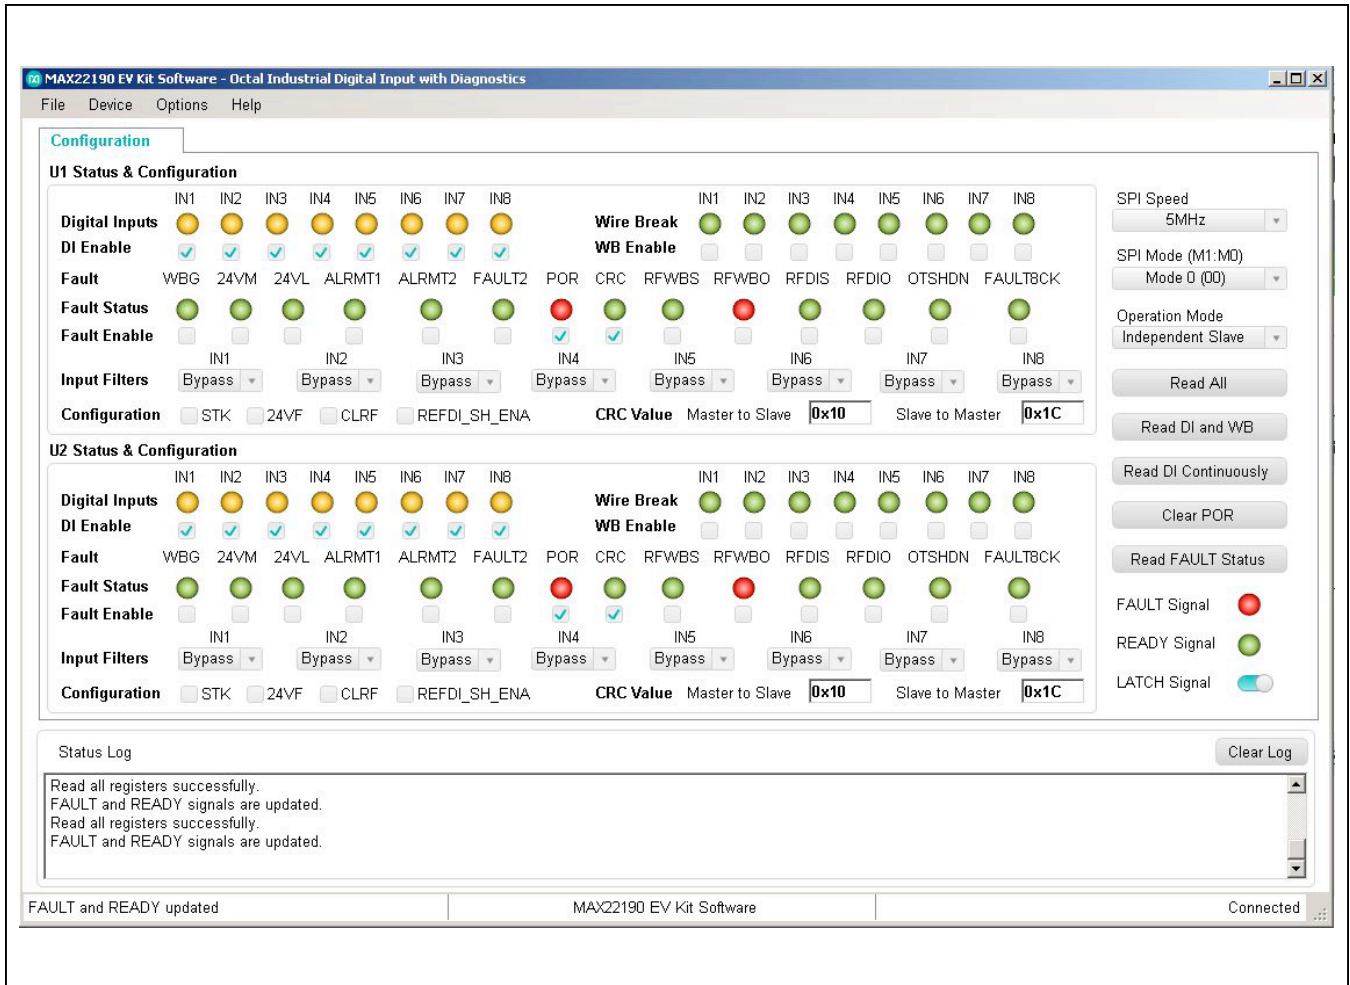
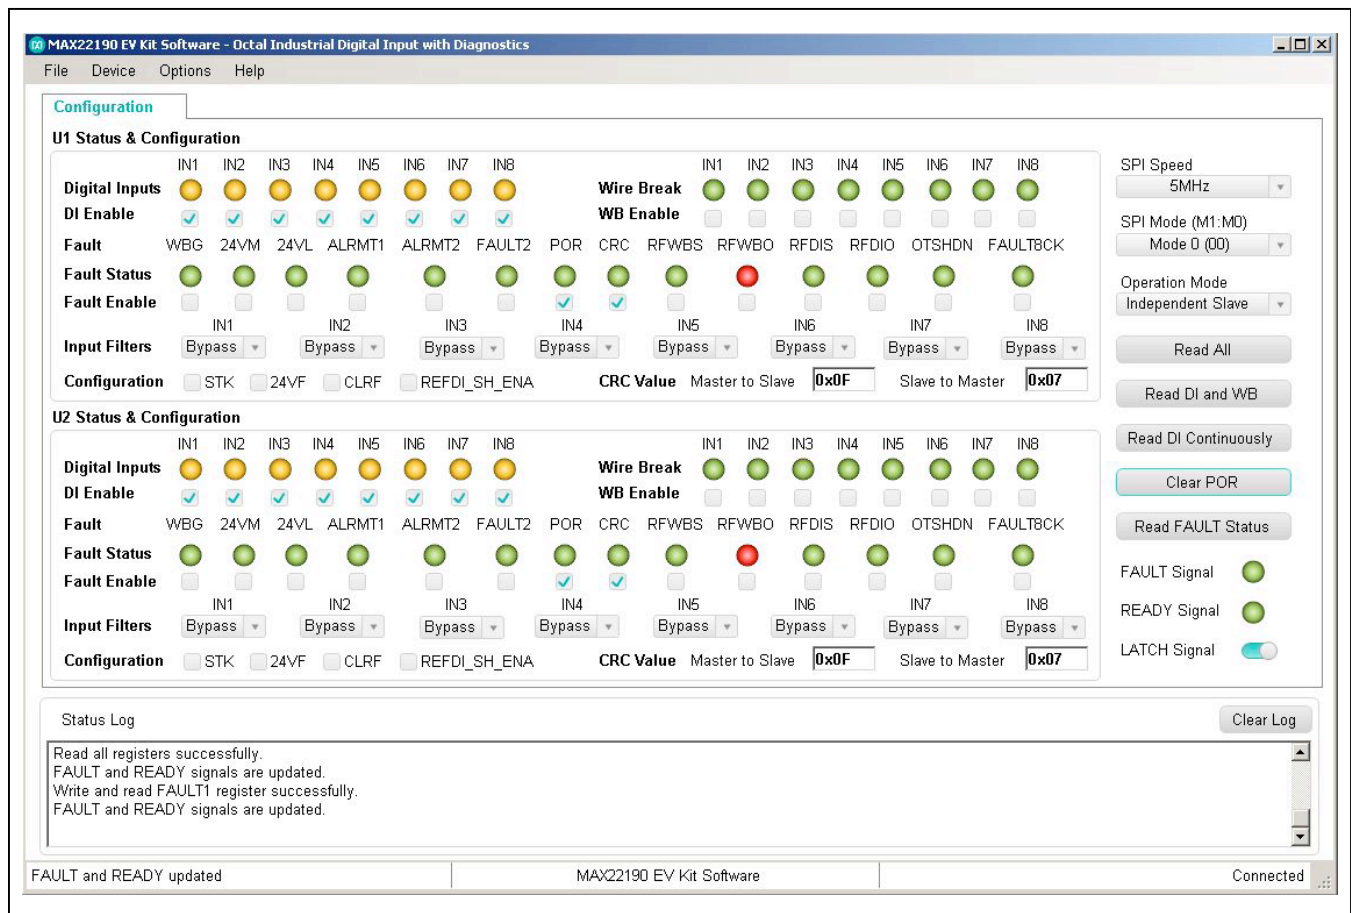

Figure 2. MAX22190 EV Kit Software Startup Window
Figure 3. MAX22190 EV Kit Software—Clear POR
- 11) Once the hardware is ready to use, launch the EV kit software by opening its icon in the **Start | Programs** menu. During the EV kit software launch, two message boxes are shown to indicate the default operation mode (Independent Slave mode), and U1 and U2 SPI mode (Mode 0). Click **OK** to close the message boxes. The EV kit software appears as shown in Figure 2.
- 13) Click **Clear POR** button. Observe that **POR** status lights for U1 and U2 are changed to green, and **FAULT Signal** status light is also changed to green in the **Configuration** tab as shown in Figure 3.
When the MAX22190 EV kit software starts, it automatically detects if the EV kit is connected to a PC and indicates it in the status bar at the bottom edge of the GUI. If the software does not recognize the USB2PMB2# adapter board, make sure that the software and all drivers are properly installed, check the USB connection, and go to the **Device** menu and select **Search for Hardware** option. When the EV kit is properly connected, the MAX22190 devices (U1 and U2) are read and all controls are updated (see Figure 2).
After power up, the MAX22190 $\overline{\text{FAULT}}$ pin is low and the POR bit in the FAULT1 register is set, indicating that a power-on-reset has happened and all registers are set to default (Figure 2). After clicking the **Clear POR** button, the GUI clears the POR bit in the FAULT1 register. The FAULT pin is pulled high and FAULTB1 or FAULTB2 LEDs are turned off after clearing the POR (Figure 3).